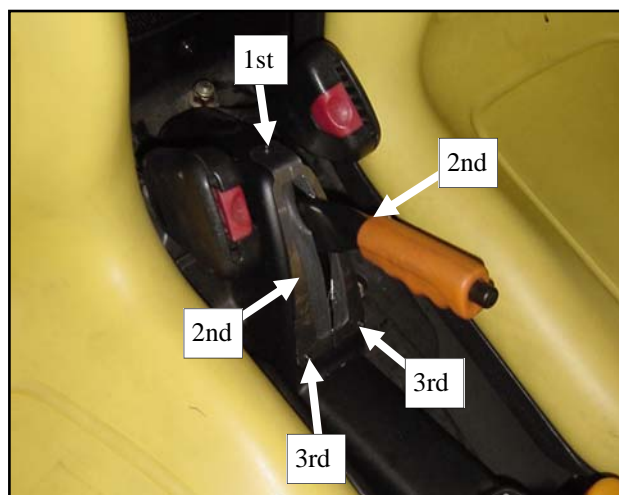

Fig. 9.2 (install brake lever seal)
9.2 Vehicles that have the brake lever located between the seats as shown in fig. 9.2 must have a steel/rubber seal installed. Newer vehicles with the brake lever in front of the seat do not require this seal. First slide the seal over the lever and center on the opening. Hold the seal firm against the plastic and install the top sheetmetal screw first. Push the seal against the plastic and install the two center screws followed by the two bottom screws.